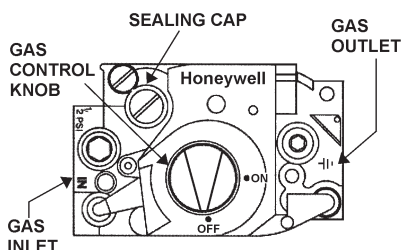

FIGURE 21.
Figure 21 shows the type of combination manual gas control valve and regulator used on these heaters.
3. Remove the regulator adjustment sealing cap and adjust the pressure by turning the adjusting screw with a screwdriver. See Figure 21.